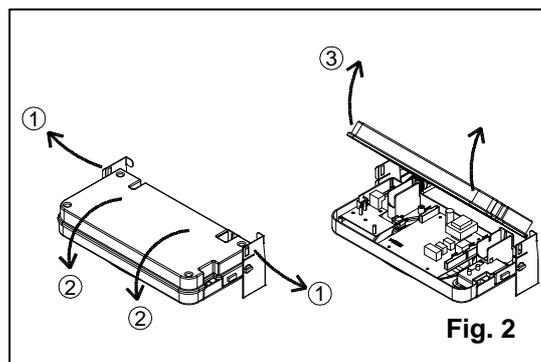

Fig. 2
- Grasp the left and right control panel support brackets (see fig. 2) and pull them outwards, at the same time rotating the panel downwards.